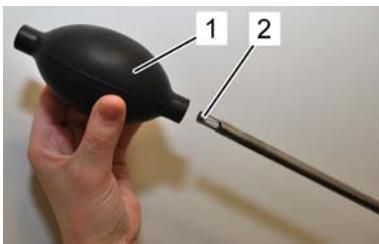

Figure 9: rubber ball
1. Compress the rubber ball (Figure 9 /1).
2. Connect the rubber ball (Figure 9 /1) to the probe end (Figure 9 /2).